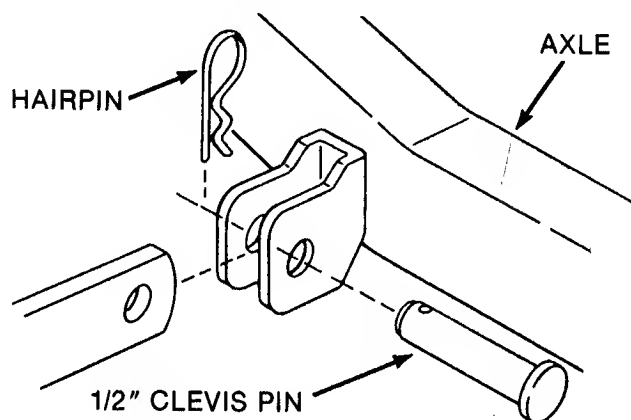

FIG. 27 - FRONT LIFT ARM DETAIL
6. Slip ball end of cable attached to front lift arm into slot in the clevis then attach the clevis to the lift lever bracket with small clevis pin and small hairpin. Refer to FIG. 27.